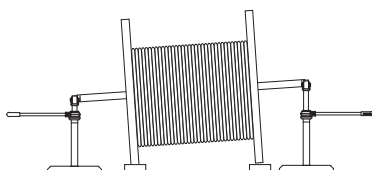

Figure 2
4. Position reel stands under each end of the spindle so the reel stand rollers are aligned within and in contact with the spindle grooves. (Fig. 2)
5. Turn the reel stand handle clockwise to extend one reel stand until the cable reel clears the ground. (Fig. 2)